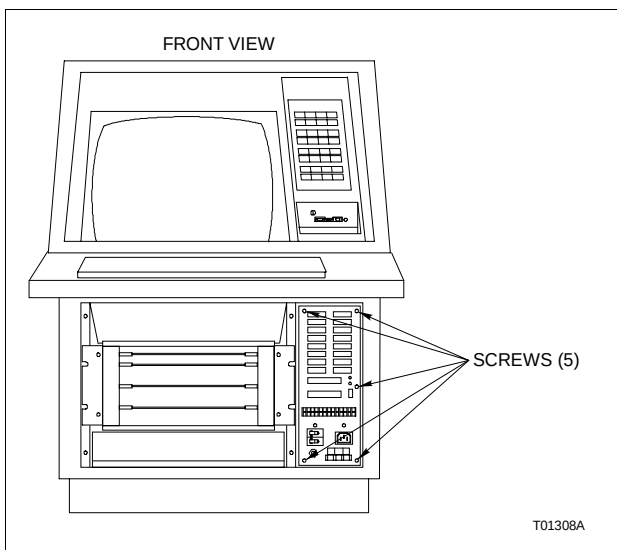

Figure PR26-2. Console Model PEP Replacement
- ☐ 6. Use the bladed screwdriver to remove the five screws from around the front of the PEP (Fig. PR26-2).